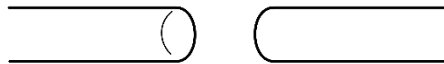

Figure 1
- 8.1 Follow standard operating procedures for exposure, mobilization, and preparation of the nerve for repair (Figure 1). Determine the nerve diameter in millimeters (mm) using a suitable measuring instrument. **Ensure nerve diameter measurement and device size selection are accurate. Failure to do so carries the risk of potential nerve injury.** Select the Nerve Tape size closest to the nerve diameter.